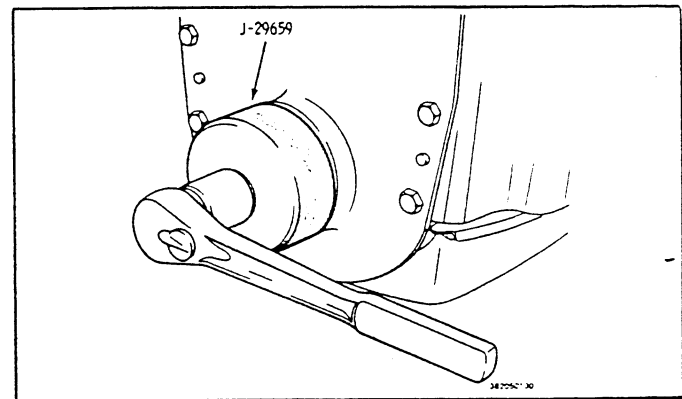

Fig. 46 Installing Front Cover Oil Seal
2. Using tool J-29659 (with the crankshaft balancer bolt and washer), install the seal **squarely** until strong resistance is felt (Fig. 46). The tool will touch the front cover when the seal is correctly installed.